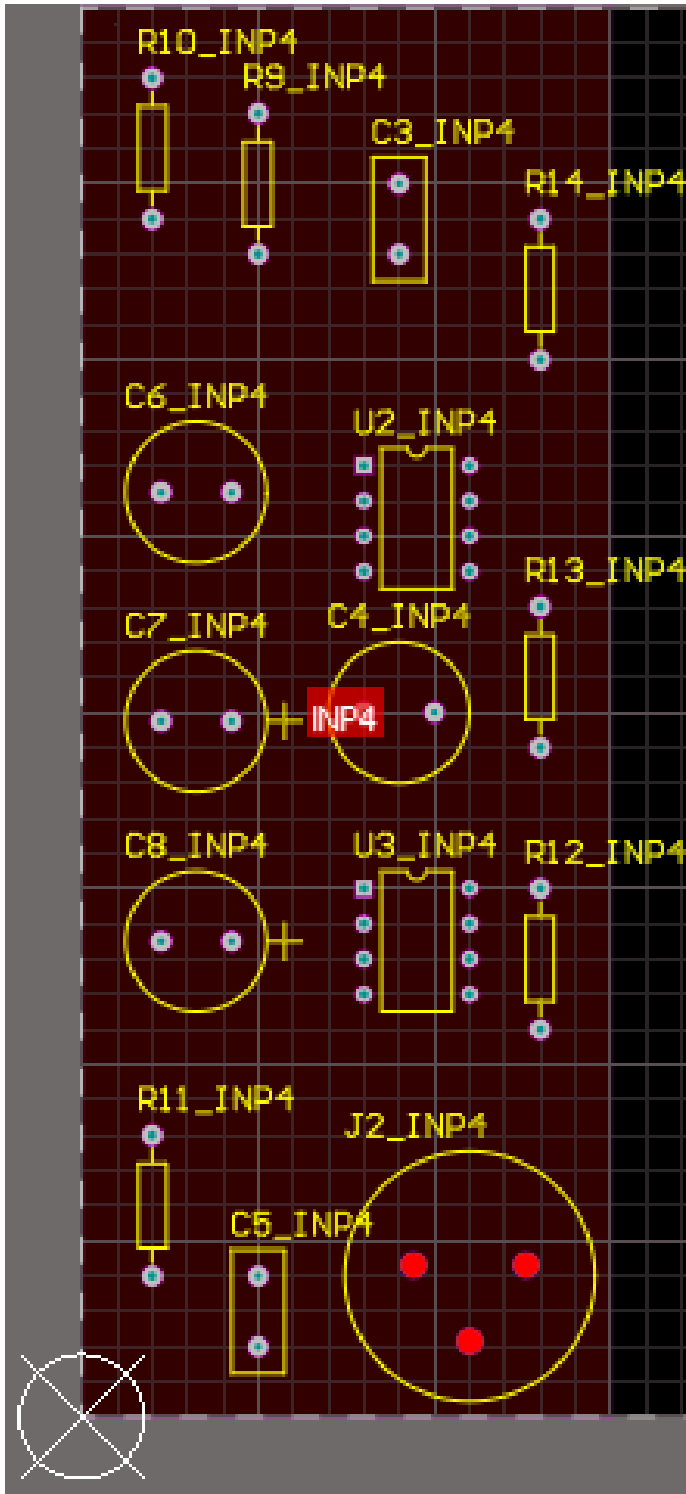

Figure 7. Resizing and position components in Room 4
13. Take the components that belong to the room, and manually position them roughly as shown in Figure 7.